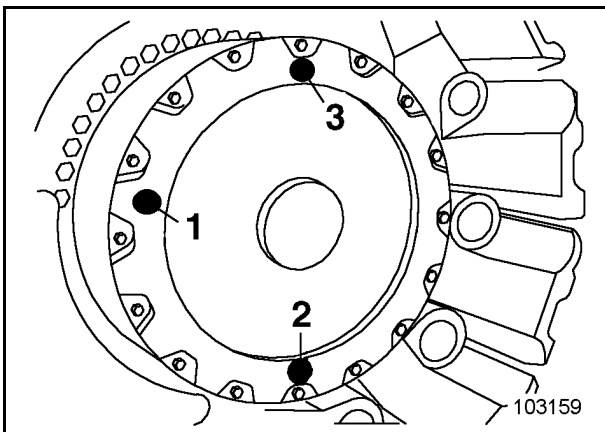

Fig. 3-117:
- Move the excavator into such a position that the screw plugs (1, 2 and 3, Fig. 3-117:) are in the displayed position.